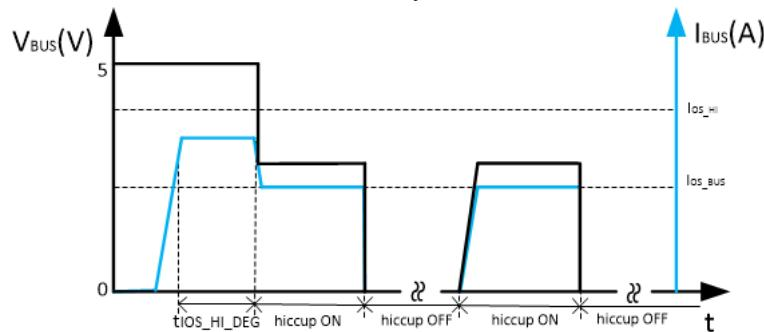

图 10-6. BUS Overcurrent Protection
- The second condition is the load current increases above I_{OS_BUS} but below the I_{OS_HI} setting. The device allows the USB port to output this large current for $t_{OS_HI_DEG}$, without limiting the USB port current to I_{OS_BUS} . After the $t_{OS_HI_DEG}$ deglitch time, device will limit the output current to I_{OS_BUS} and works in a constant current-limit mode. If the load demands a current greater than I_{OS_BUS} , the USB output voltage decreases to $I_{OS_BUS} \times R_{LOAD}$ for a resistive load, which is shown in 图 10-6. If the overcurrent limit condition lasts longer than 4.1 ms, the corresponding USB channel enters hiccup mode with 524 ms of off-time and 4.1 ms of on-time. Another USB channel still works normally.